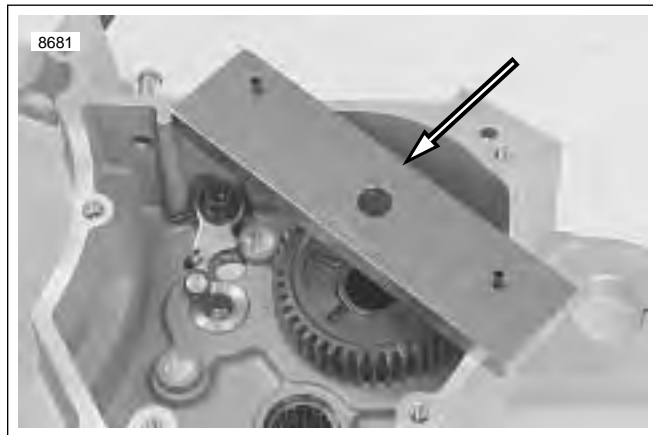

Figure 6-67. Bearing Remover Cross Plate Mounting (Part No. B-45847)
4. See Figure 6-67. Place cross plate on crankcase as shown.
2. See Figure 6-67. From inside crankcase, position BEARING DRIVER (Part No. HD-035316-9) over main drive gear bearing.